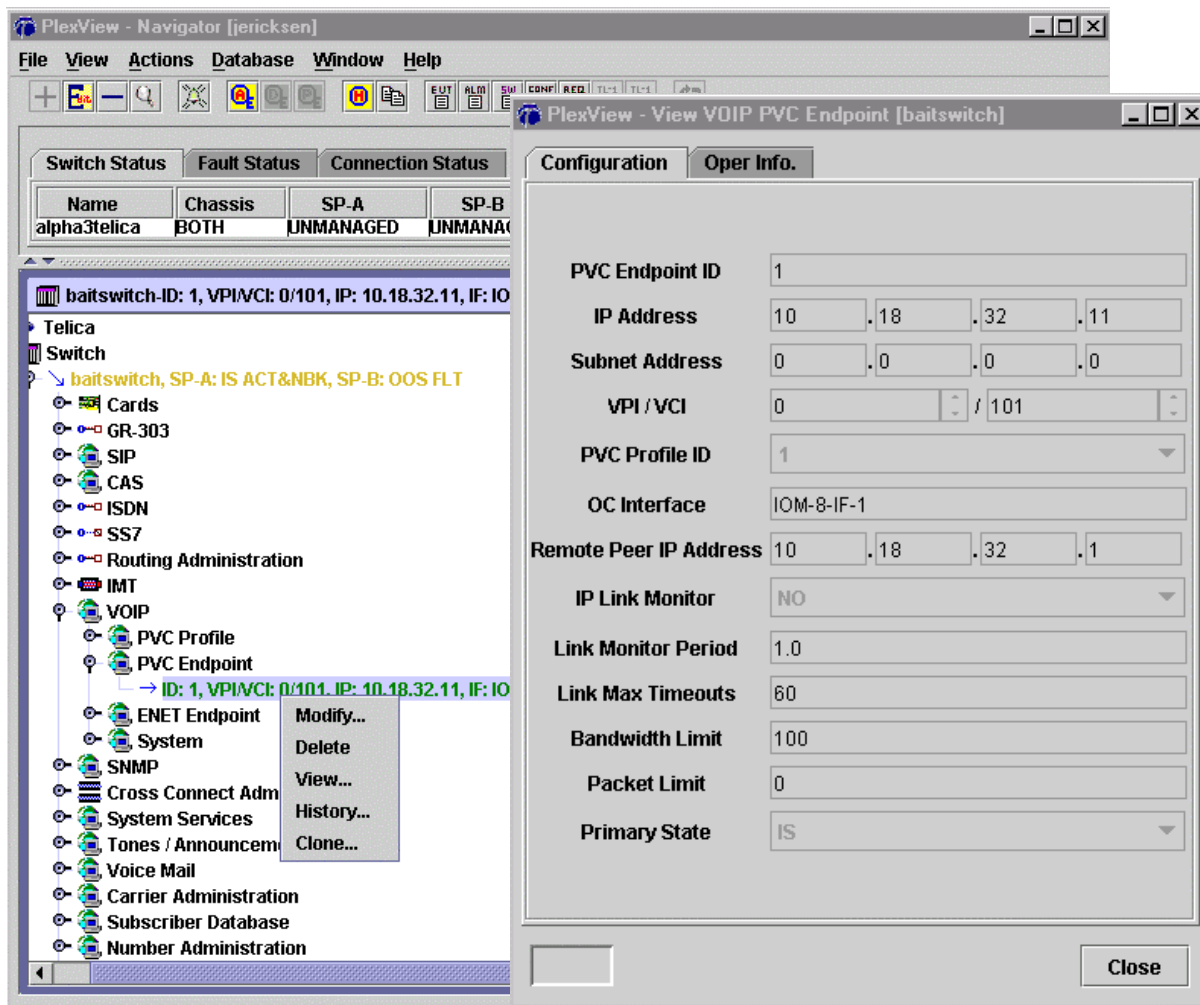

Figure 2. PVC Endpoint
- If using **EMS**, double-click *VOIP* and then *PVC Endpoint*. Right-click the endpoint to check. See to Figure 2 for an illustration of screens.